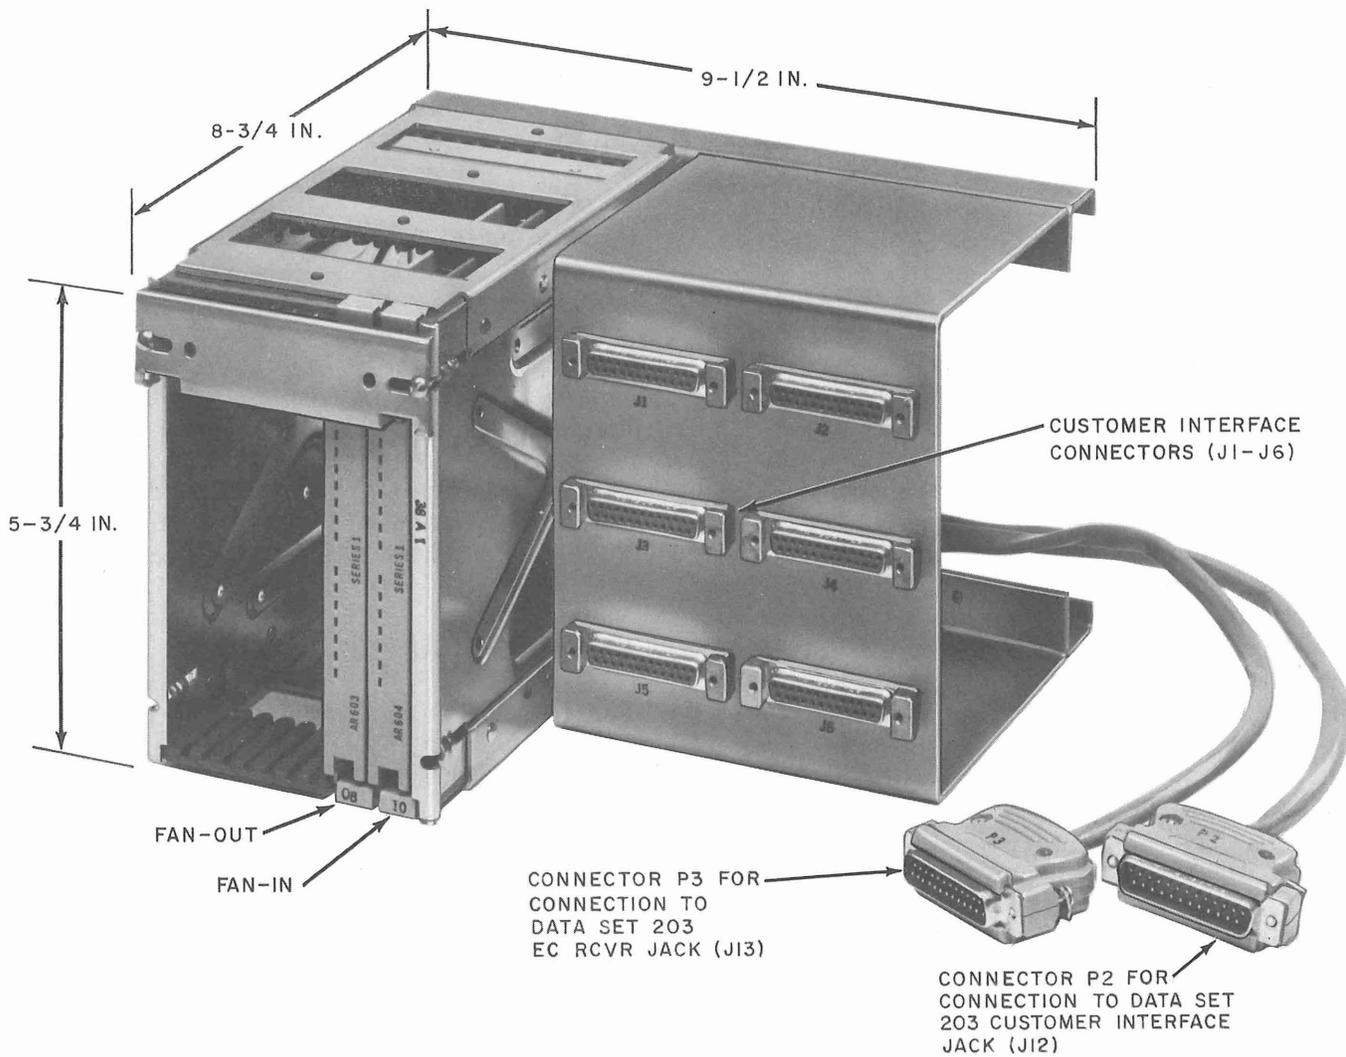

Fig. 1—38A-Type Data Unit—Front View
1.02 The 38A-type data unit, as shown in Fig. 1, is initially used with data sets 203-type in 4-wire private line applications to provide a multiple access customer interface (fan-out). The 38A-type data unit will accommodate up to six Electronic Industries Association (EIA) Specification RS-232-C interface arrangements.